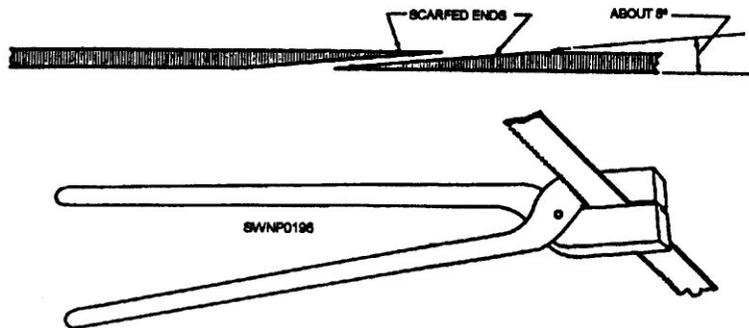

Figure 12-10.—Rejoining a broken band saw blade.
1. SCARF the two ends to be joined with a file so that they may be joined in a SCARFJOINT (fig. 12-10).